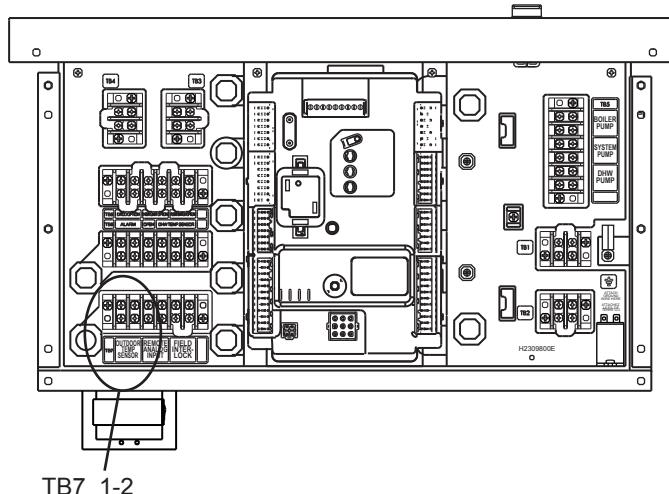

Fig. B1-1 - Terminals for outdoor reset
2. Before you start troubleshooting, you should disconnect some parts of the system to make the troubleshooting simpler. If a sensor for the Outdoor Reset function is connected, disconnect it at terminals 1 and 2 on TB-7 on the control board. See Fig. B1-1. (Remember to re-connect the sensor when you are done.)